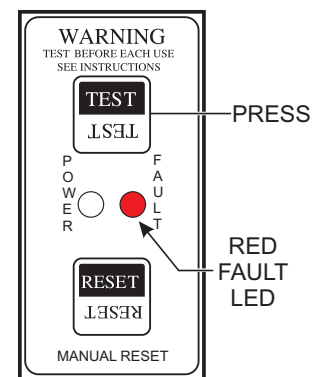

Figure 48. GFCI Module (Red/Fault LED ON)
5. Next, press the **TEST** button (Figure 48) on the GFCI module and verify that the **green** POWER LED turns **OFF** and the **red** FAULT LED turns **ON**.